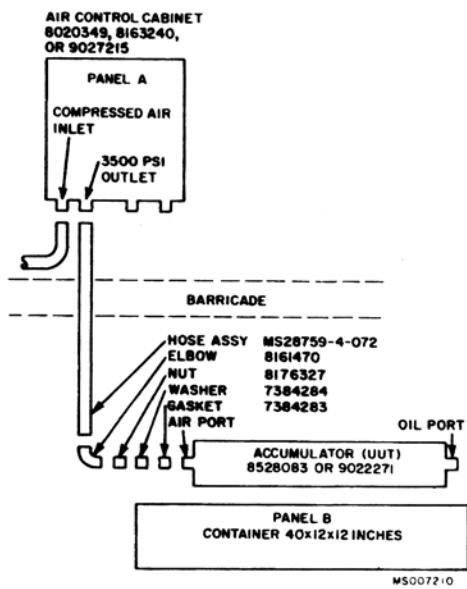

Figure 172.1. Air leak test diagram.
- (3) Preparation for final test—Part 1.
- (b) Connect the test equipment to the UUT (fig. 172.1).